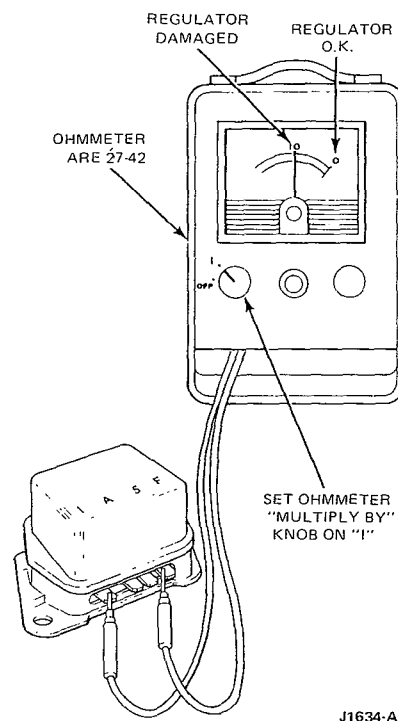

FIG. 7 Regulator Burned-Open Connector Wire Test
9. A check for the regulator burned-open wire is made by connecting an ohmmeter from the I to F terminals of the regulator (Figure 7). The reading should indicate 0 (no resistance). If the reading indicates approximately 10 ohms, the connector wire inside the regulator is open. **The field circuit grounded condition must be found and repaired before installing a new regulator.**